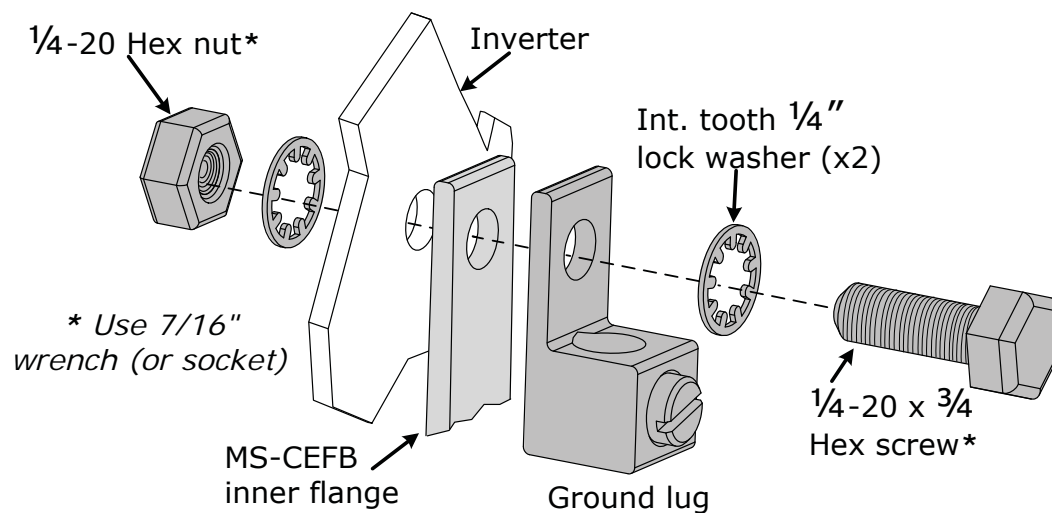

Figure 6, Re-Attaching the DC Ground Hardware
3. Remove the DC ground connection from the bottom left corner on the front side of the inverter (reach into the AC terminal block compartment to secure the hex nut while unscrewing the bolt on the outside of the inverter using a 7/16" wrench/nut driver). Refer to Figure 6.
9. Re-attach the DC ground connection removed in Step 3—the ground's Hex screw fits through the inner flange on the filter box (Figure 6).